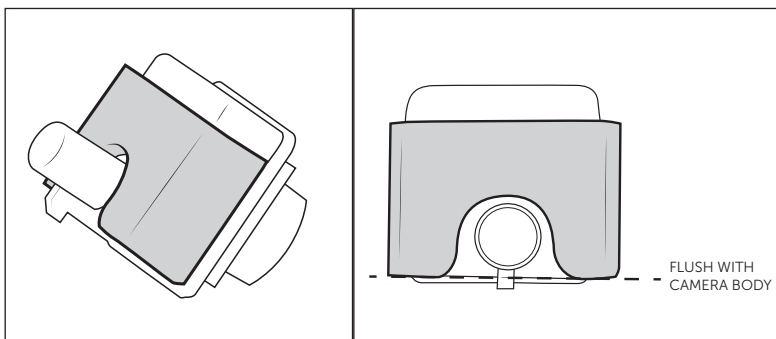
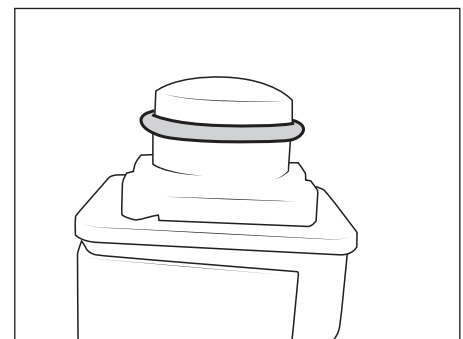

Figure 21
Figure 22
*NOTE: Some vehicles, primarily those with Front Trail Cam, are equipped with a smaller rear camera that will be loose in the clamshell mount. If this is the case, use the provided adhesive backed rubber shim around the camera body (fig. 21). Install the bottom edge of the shim flush with the bottom edge of the camera body. Install the provided O-ring around the camera lens (fig. 22). Then install the camera into the clamshell mount and make sure it is not twisted in the housing. Adjust by hand if needed.